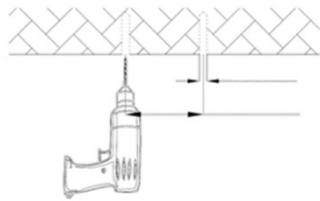

Figure 5
3. Using the yoke mount bracket as a template, mark and drill holes in the ceiling or other solid structure to which the luminaire will be attached. (See Figure 5)